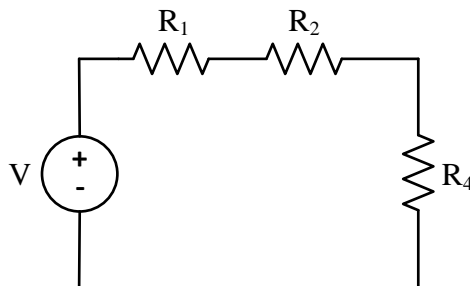

Figure 4. Voltage Divider with Three Series Resistors.
Remove resistors R_3 and R_5 from your circuit to create the circuit shown in Figure 4.
Measure and record the voltages across the three resistors shown in Figure 4. Be sure to record the polarities of the voltages.
4. Verify the voltage divider relation for the circuit shown in Figure 4.